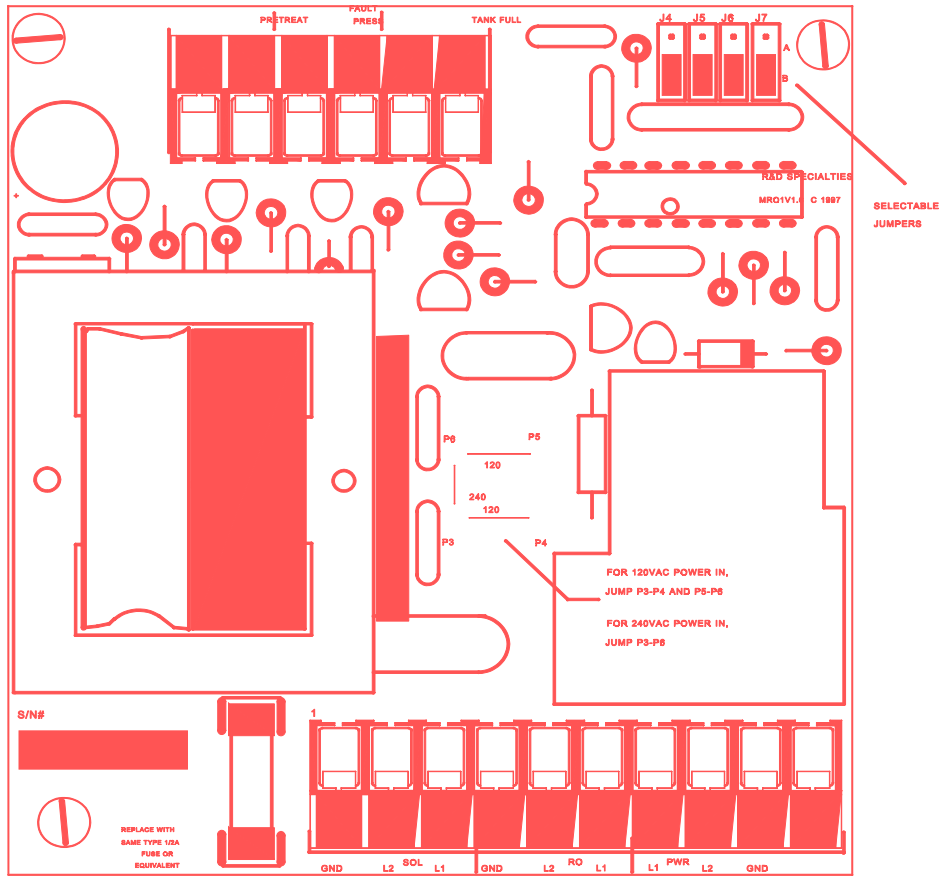

Figure 1
1. Confirm that the controller is configured for the proper voltage 120, 240 or 24 volt. See ID label, also a label is located on top of the transformer designating voltage (See Fig. 1)
3. Confirm that the (3) input signals - pressure switch, tank level switch and pretreat switch are all of the same configuration, normally open or normally closed.
- C. Terminate necessary wiring to the terminal strips as required (See Fig. 1). Each terminal is labeled for the proper connection. Terminal strip P1 is high voltage for power, motor and inlet solenoid. Utilize proper 3 conductor wire size for the appliance. **CAUTION:** The controller is rated for maximum 20 amp total load. Terminal strip P2 is low voltage for input signals from tank full, pressure fault and pretreat lockout. Use small gauge 2 conductor cable for these wire connections.